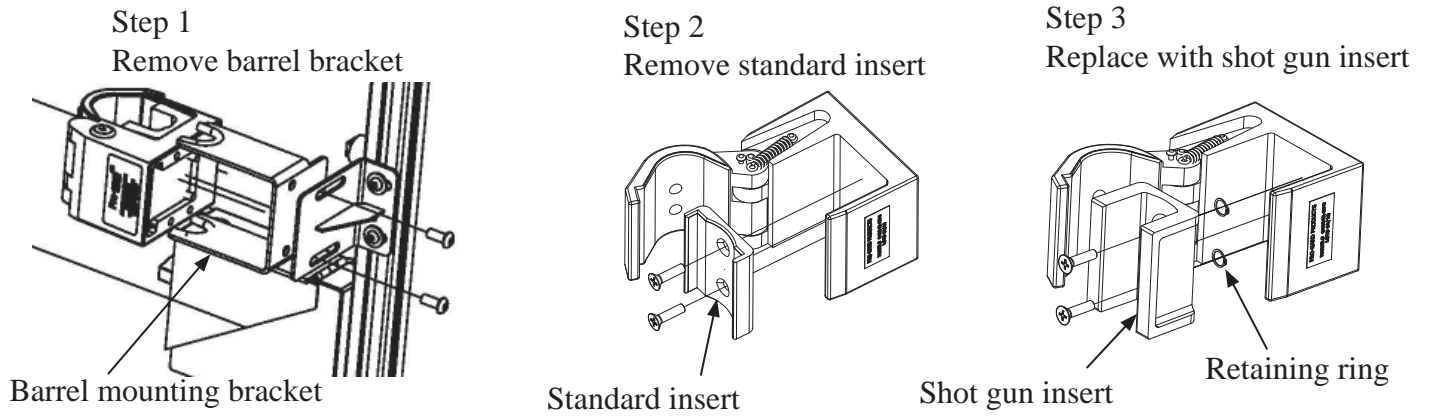

Fig. 2
- C. Shot Gun Mounting - The shot gun can be mounted in two ways, by barrel mount or by installation of the shot gun chamber mount insert. To install the shot gun insert, remove the standard insert by opening the lock and unscrewing the two insert bolts with an allen wrench. Remove the retaining ring from the bolt's back side. Replace with shot gun insert (3G724) and reinstall insert bolts and retaining rings on the back side of the insert. Use the two fastener bolt's adjustment to fit the shot gun used in the lock. (See Fig. 2)